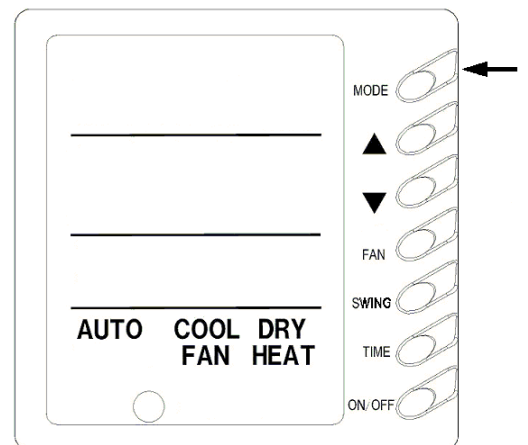

Fig. 6
5) Running Mode Setting (Fig.6)